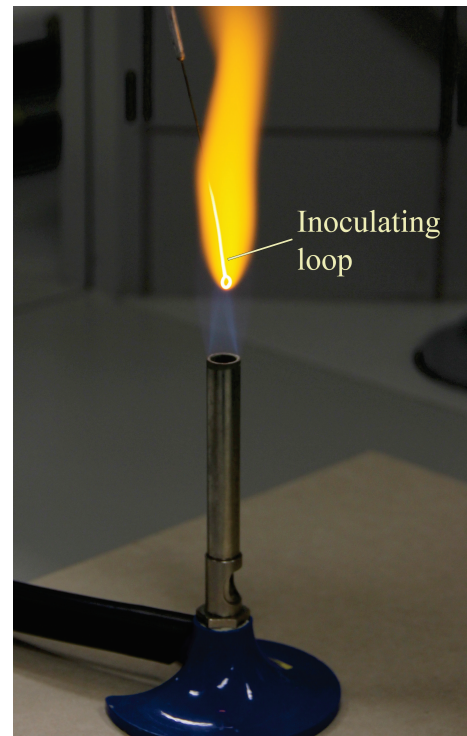

Fig. 2
4. Flame the inoculating loop to red hot (Fig. 2) and allow it to cool down*.